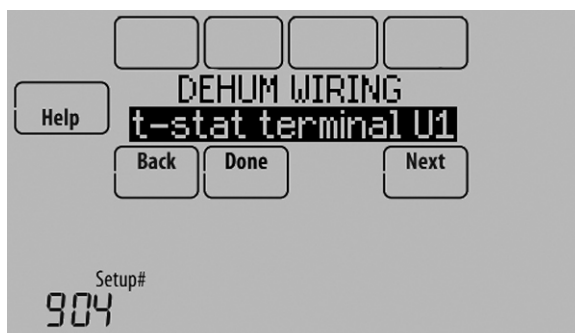

Fig. 127.
2. Select the terminals wired to the A/C with Low Speed Fan. See Fig. 127.